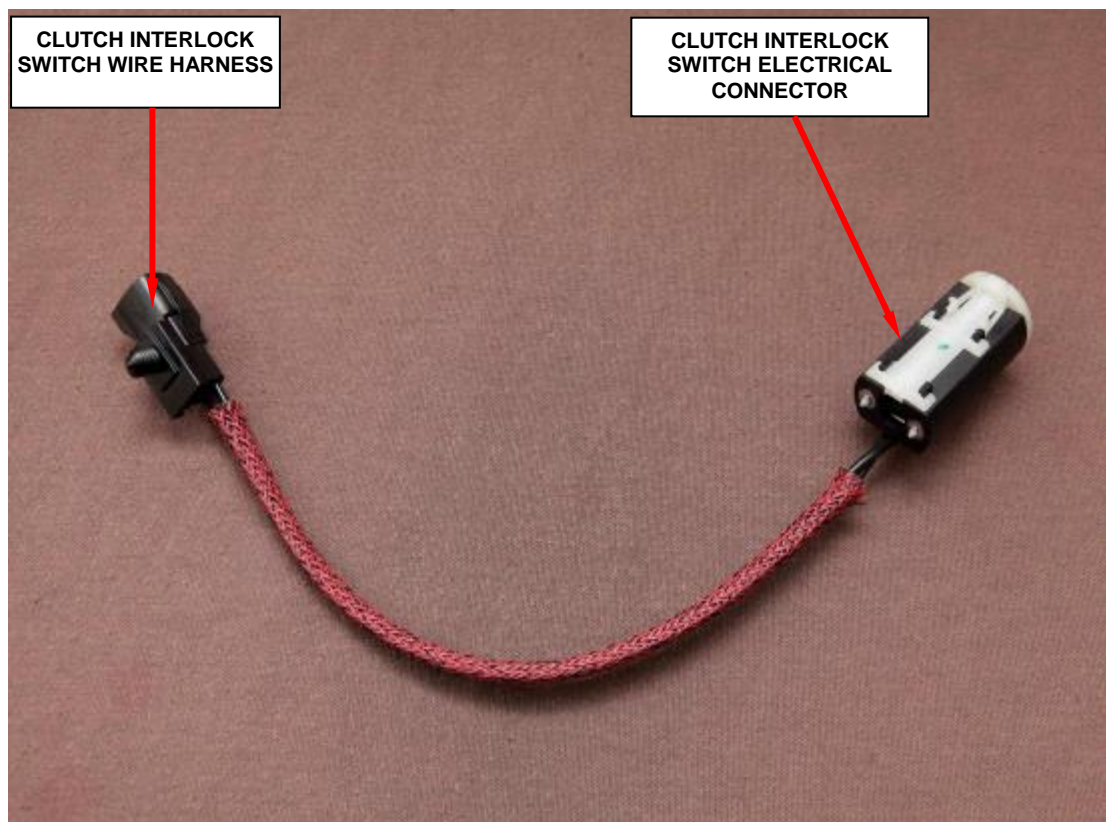

Figure 1 - Clutch Interlock Switch Electrical Connector
5. Disconnect the clutch interlock switch electrical connector (Figure 1).
11. Connect the clutch interlock switch electrical connector to the body wire harness electrical connector (Figure 1).